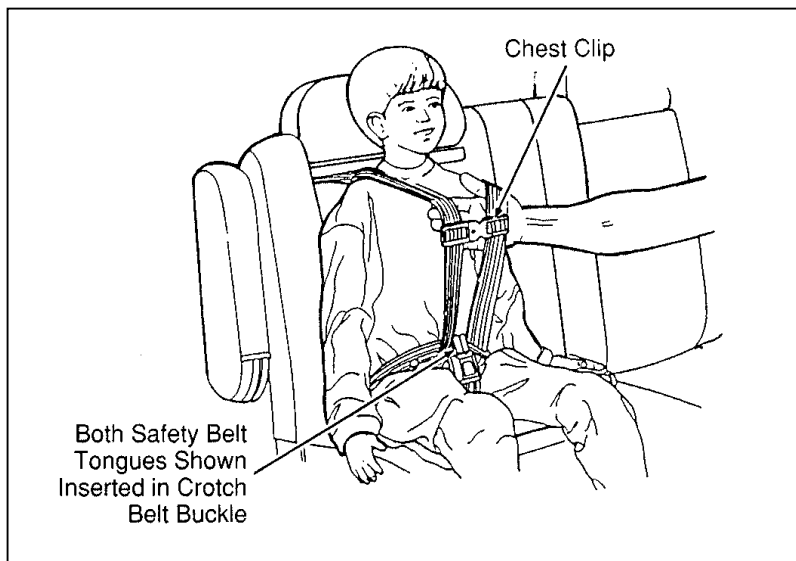

Figure 6: Checking for securely latched buckle and chest clip
7. Pull the shoulder belts out to ensure that the crotch safety belt buckle and chest clip are securely fastened. Refer to Figure 6.